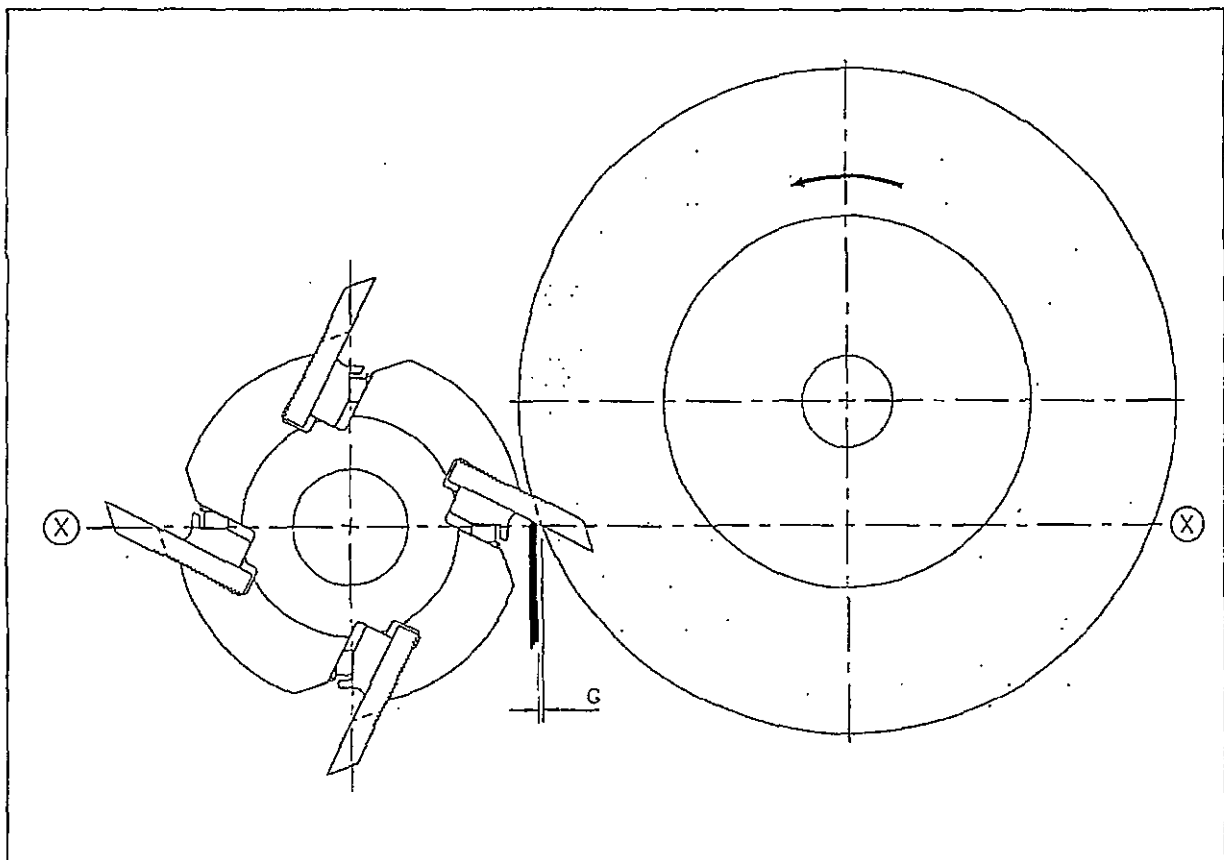

Fig. 1c
Theoretically the cutter rest and the ground edge of the cutter should be at the same point, [ the theoretical grinding point ], however for practical considerations there must be a gap (G) between the cutter rest and the wheel. *Fig. 1c.*